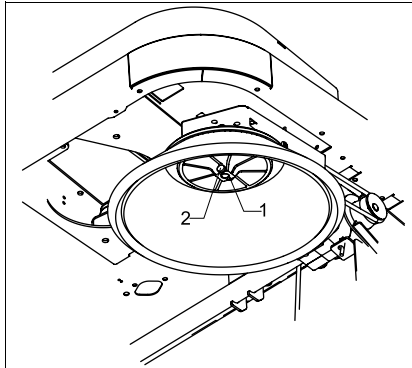

Fig. 15 Replace side brush
- Loosen hexagonal nut (Fig. 15/1) und remove together with washer
- Remove bolt (Fig. 15/2)